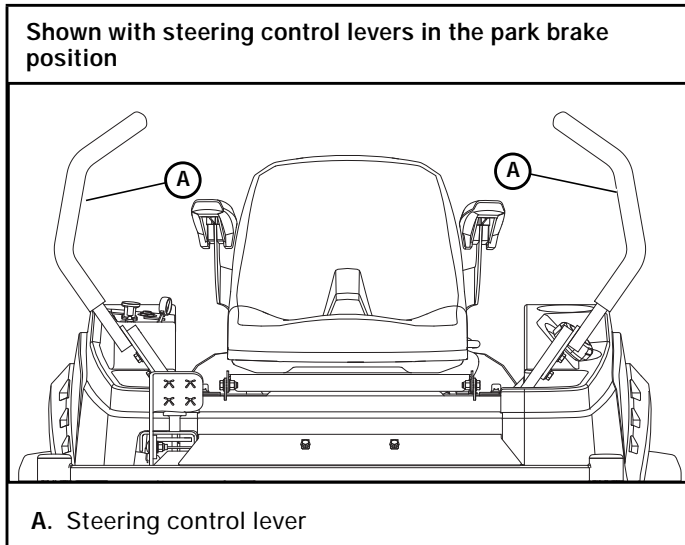

Figure 4-5
- Shut engine off and place the steering control levers in the park brake position. Raise the seat and seat platform. Figure 4-5